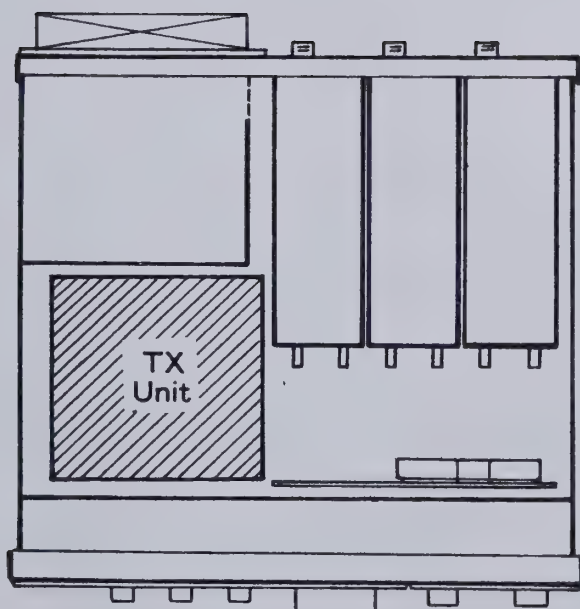

Figure 1
2. In the front lefthand corner of the transceiver, locate the TX Unit, as shown in Figure 1. Now referring to Figure 2, locate plugs P_{25} and P_{29} taped to the TX Unit (illustrated with dotted lines below). Also locate plugs P_{27} , P_{30} and P_{205} taped to the inner chassis shield, and P_{28} taped to the left side chassis (also illustrated with dotted lines).